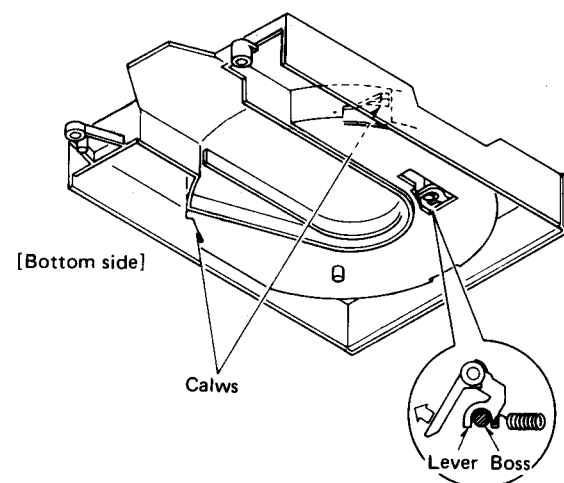

Fig. 12
* It can be easily set by pushing the lever in the direction of the arrow. [Fig. 12]